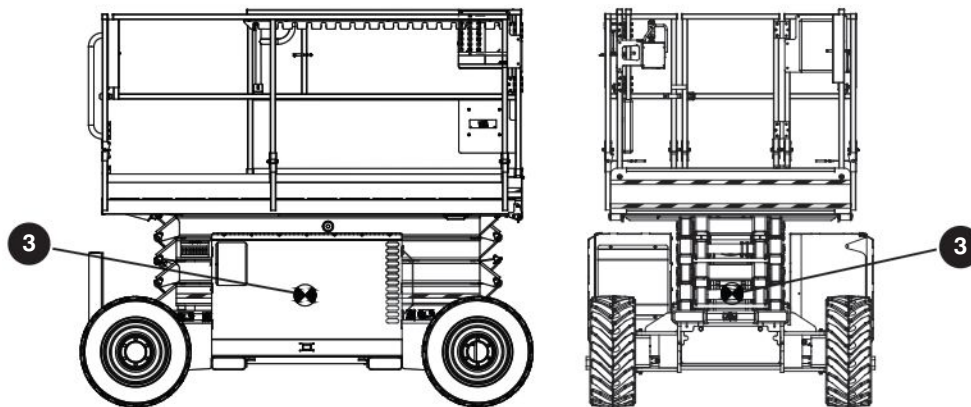

Figure 07 MEWP Center of Gravity
For the weight of the MEWP, refer to Section 7.3. Horizontally, the **center of gravity** ③ is approximately in the middle of the MEWP, front to back and side to side. Refer to Figure 07. Vertically, the center of gravity is approximately a small distance above the chassis.